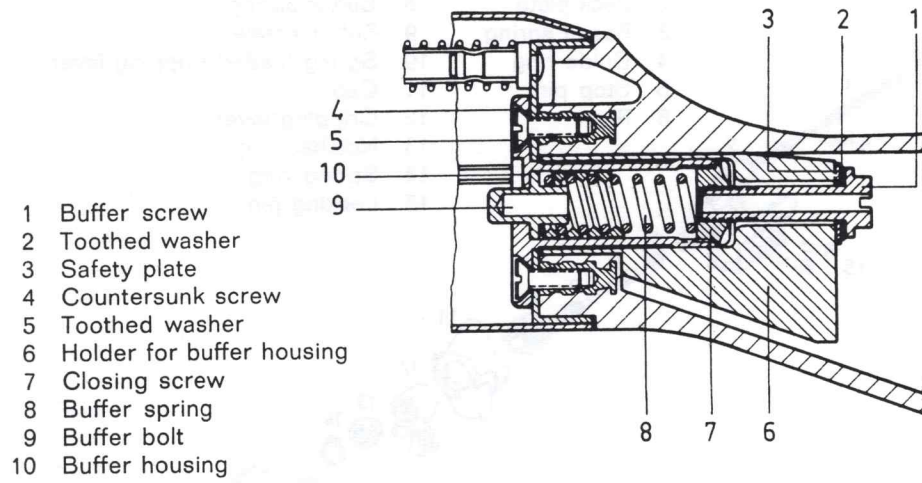

Fig. 22: Buffer assembly
**The buffer assembly (Fig. 22)**